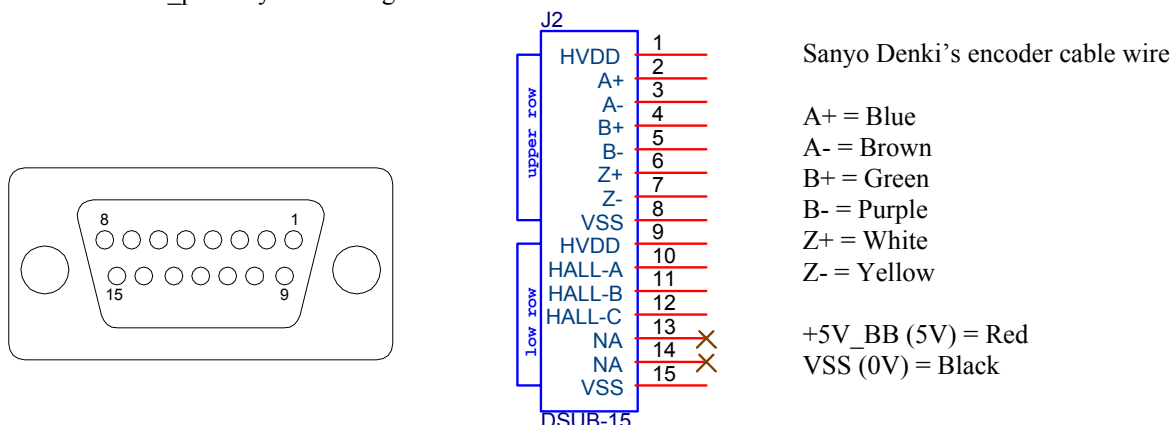

Figure 2. Encoder Interface Connector, J2
- Assemble 15-pin male D-Sub connector, referring to Figure 2.